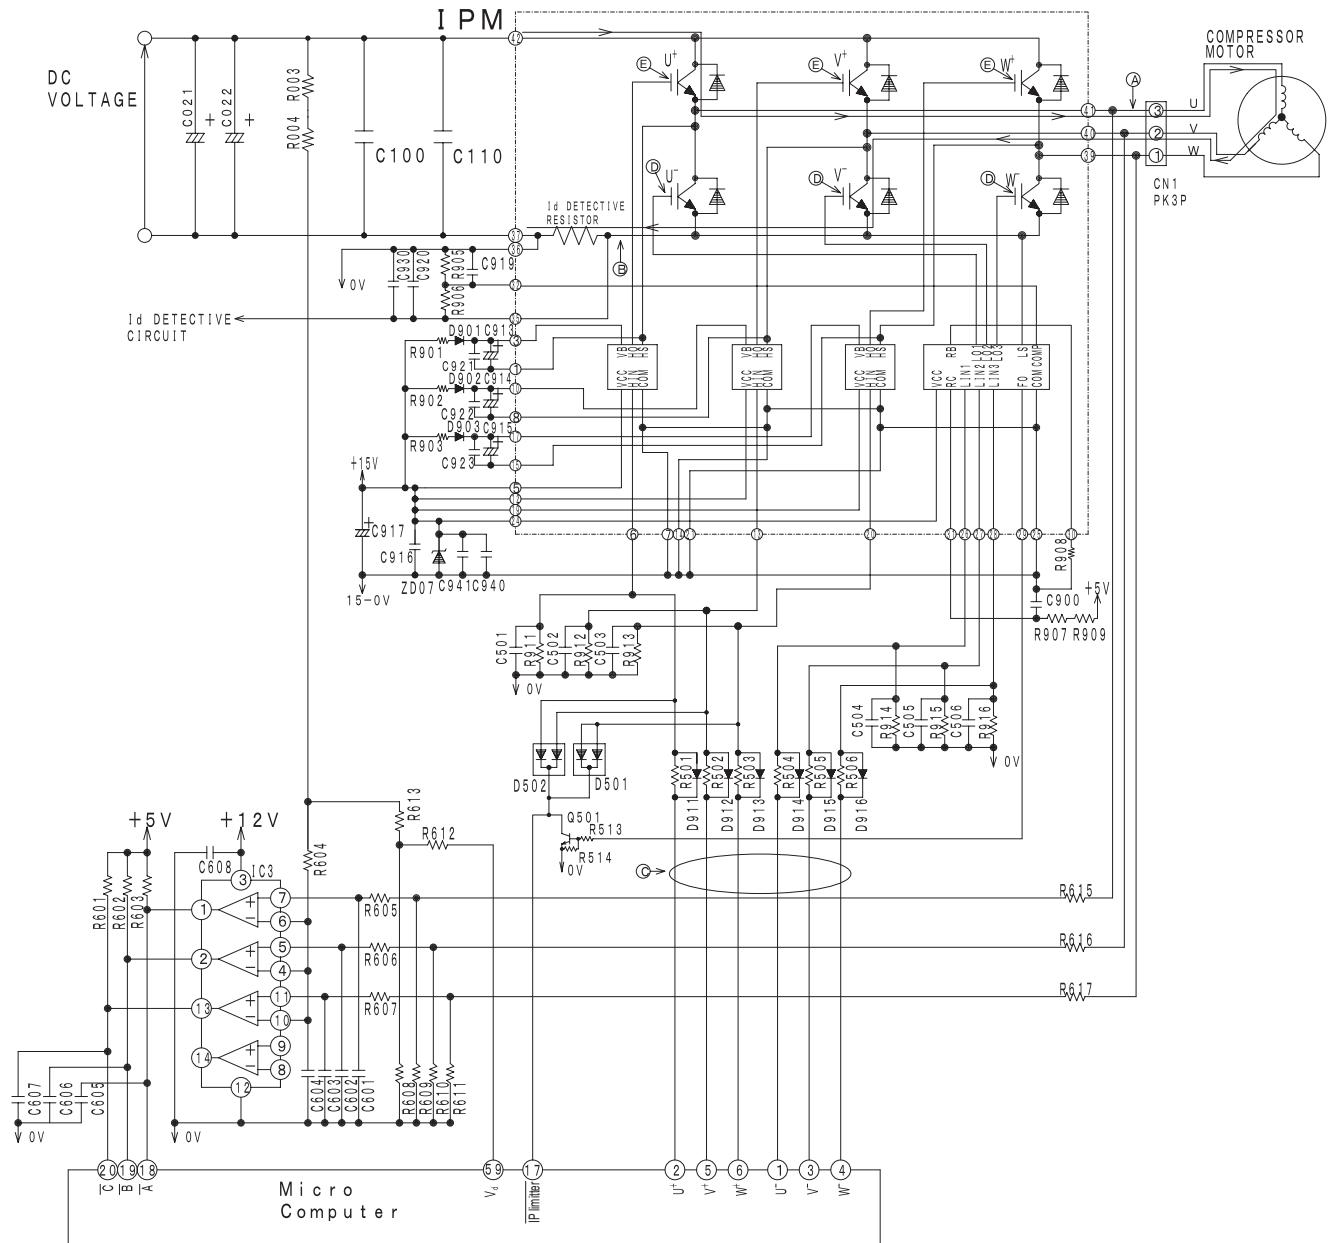
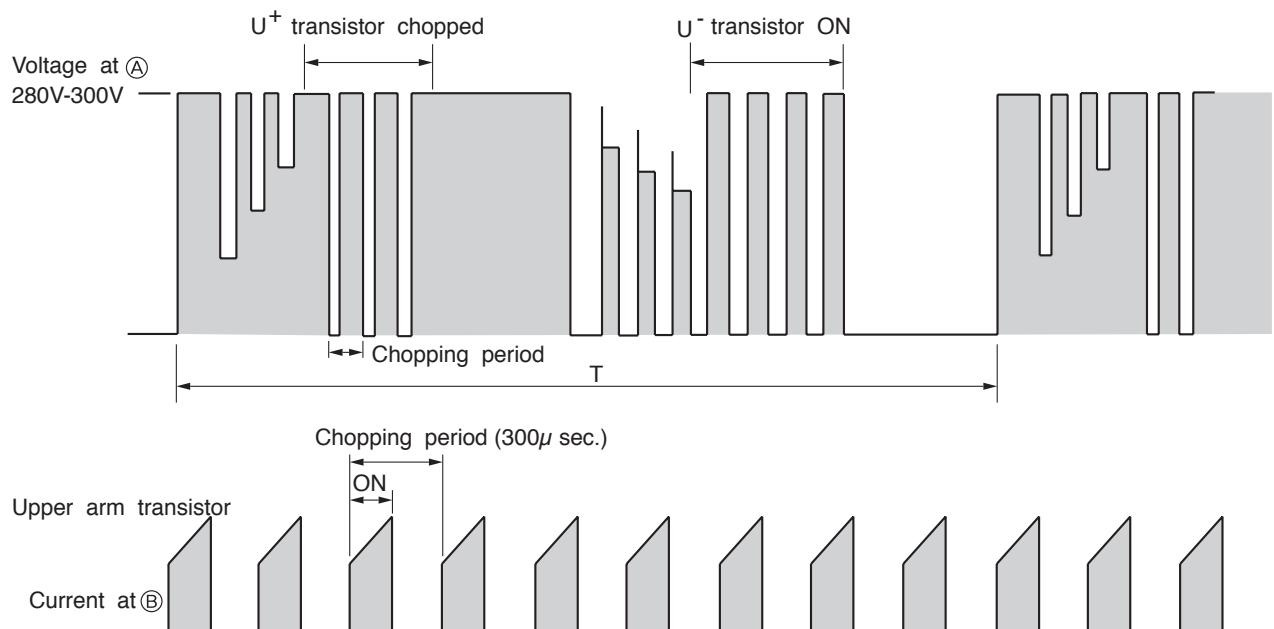

Fig. 4-1 Intelligent power module circuit ( $U^+$  is ON,  $V^-$  is ON)
Fig. 4-3 Voltage waveform at each point
- Fig.4-1 shows the intelligent power module and its peripheral circuit. The three transistors on the positive  $\oplus$  side are called the upper arm, and the three transistors on the negative  $\ominus$  side, the lower arm.
At point (E): U+ is ON, V- is ON (circuit in Fig. 4-1)
Fig. 4-3 shows voltage waveform at each point shown in Figs. 4-1 and 4-4. First half of upper arm is chopper, second half is ON, and first half of lower arm is chopper, second half is ON.
- (1) When U+ transistor is ON: U+ transistor → U coil → V coil → V- transistor → DC current detection resistor → Point Ⓛ (Fig. 4-1)
Since current flows at point ④ only when U+ transistor and V- transistor are ON, the current waveform at point ④ becomes intermittent waveform as shown in Fig. 4-3. Since current at point ④ is approximately proportional to the input current of the air conditioner, input current is controlled by using DC current (Id) detection resistor.